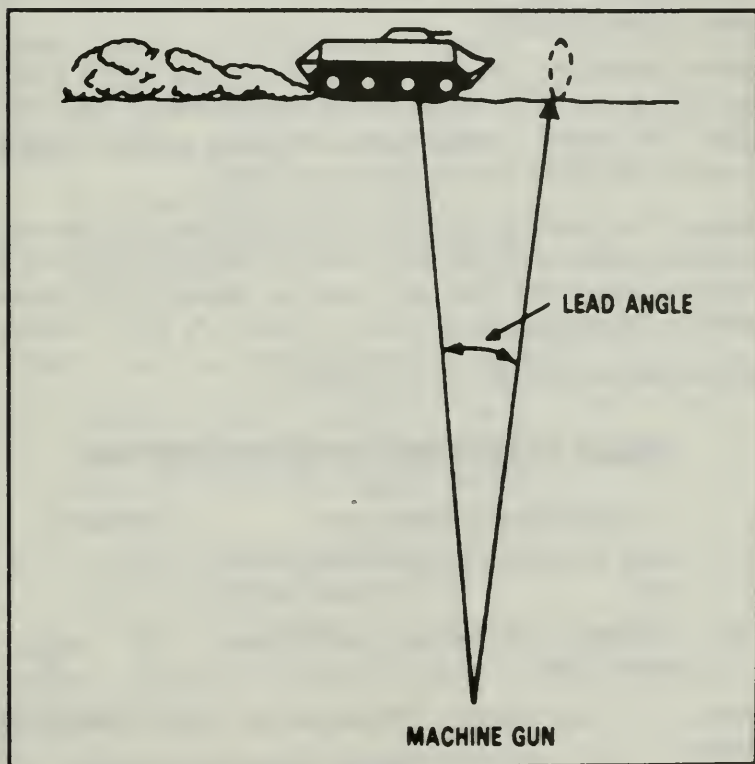

Figure 158. Moving target engagement.
(4) Place the beaten zone on target. The beaten zone is the pattern formed by the rounds of each burst striking the ground or target.
(5) If the target moves, follow it.
c. To engage a moving target (Figure 158):
(1) Estimate the speed of the target and the required lead.